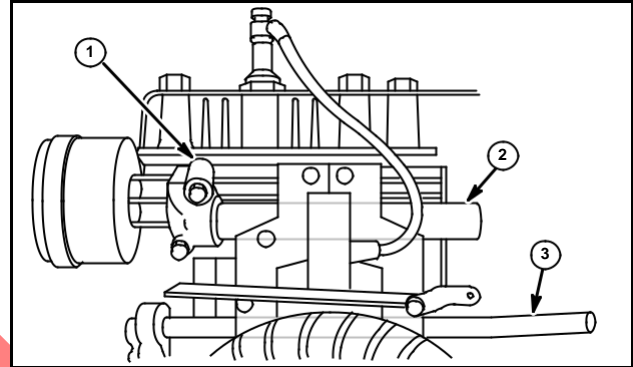

Fig. 27
Breather and Intake Manifold (Fig. 27)
Intake manifold (2) is bolted to cylinder on Model Series 90000, 92000, 93000, 94000, 95000, 100000, 110000, 110900, 111900, 112900, 113900, 114900, 130000, Fig. 27. Check for good fit or damaged gaskets to prevent air leaks or entry of dirt.